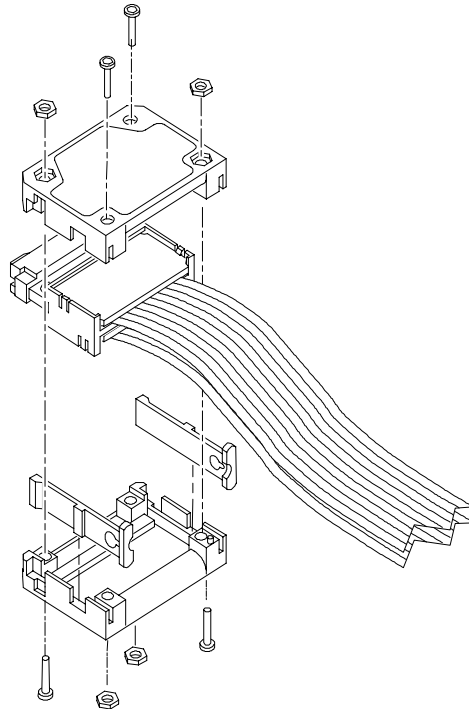

Figure 29: Reattaching the latch releases and case halves
8. Position a latch release on each side of the case half. See Figure 29.
9. Align the pin 1 case half with the pin 1 side of the connector, attach the case halves, and reconnect the screws as shown in Figure 29.